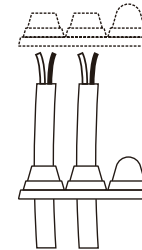

Figure 1
2. Prepare the rubber plugs (Using the 3-Position rubber cover (L) for horizontal mounting and 2-Position rubber cover (K) for vertical mounting) by clipping the end of the rubber come to create an opening slightly smaller than the diameter of the cable. This will allow the rubber to stretch slightly and seal around the cable jacket. A sharp razor blade or wire cutters can be used to cut the cone tip. (see figure 1)
3. Split the cable jacket approx. 1". (see figure 1)
4. Route the cables through their respective cones in the rubber plug. (see figure 1)
5. Strip each conductor insulation back approx 0.25". (see figure 1)